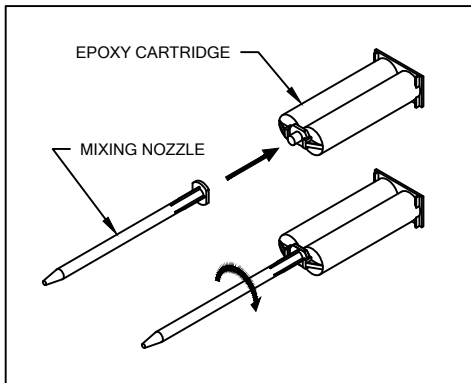

FIGURE 4.
- DRY FIT THE ALUMINUM SPLINE BEFORE APPLYING ADHESIVE. ONCE TESTED REMOVE AND APPLY 1/8" BEAD OF ADHESIVE TO SANDED, INTERIOR SURFACE (REFERENCE CAULKING GUN CONVERSION KIT FIGURES 4 & 5) AND PERMANENTLY ATTACH TO ALUMINUM SPLINE.
EPOXY CARTRIDGE AND MIXING NOZZLE. REFER TO FIGURE 4.